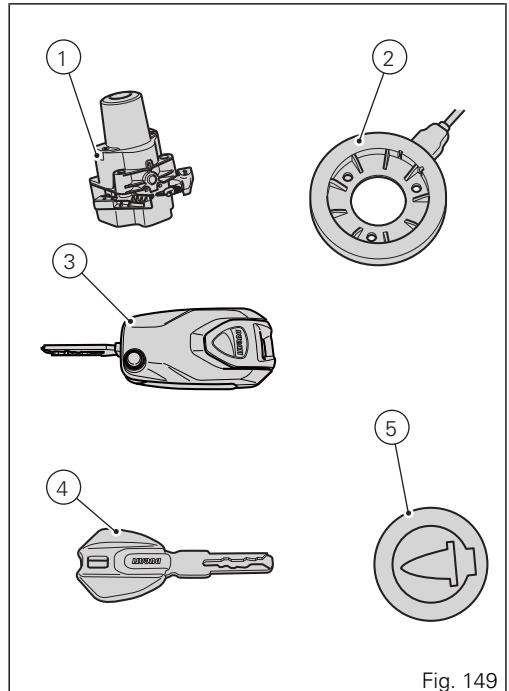
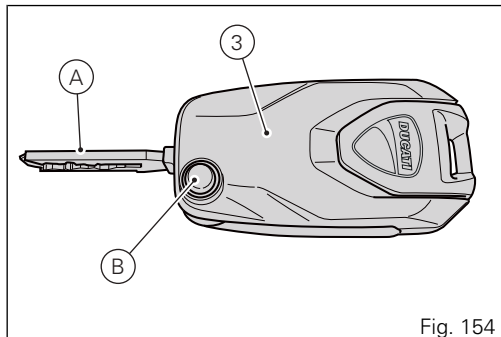

Fig. 149
Fig. 154
Key-On can be performed by pressing button (6) on the handlebar and with the presence of the active key (3, Fig. 154).
Key-Off can be performed by pressing the button (6) on the handlebar. It can also be performed without the key (3, Fig. 154) only if motorcycle speed is equal to zero.
Key-On can be performed by pressing button (7) on the Hands free unit (1, Fig. 149) and with the presence of the active key (3, Fig. 154).
Key-Off can be performed by pressing button (7) on the Hands free lock (1, Fig. 149), also without the key (3, Fig. 154).
Key-On can be performed by pressing button (6) on the handlebar and with the presence of the passive key (4, Fig. 149).
Key-Off can be performed by pressing the button (6) on the handlebar. It can also be performed without the passive key (4, Fig. 149) only if motorcycle speed is equal to zero.
Key-On can be performed by pressing button (7) on the Hands free lock and with the presence of the passive key (4, Fig. 149).
Key-Off can be performed by pressing button (7) on the Hands free lock (1, Fig. 149), also without the key (4, Fig. 149).
Key-On can be performed by pressing button (7) on the hands free lock (1, Fig. 149) without the presence of the keys (3, Fig. 154) and (4, Fig. 149) and entering the pin code on the instrument panel.